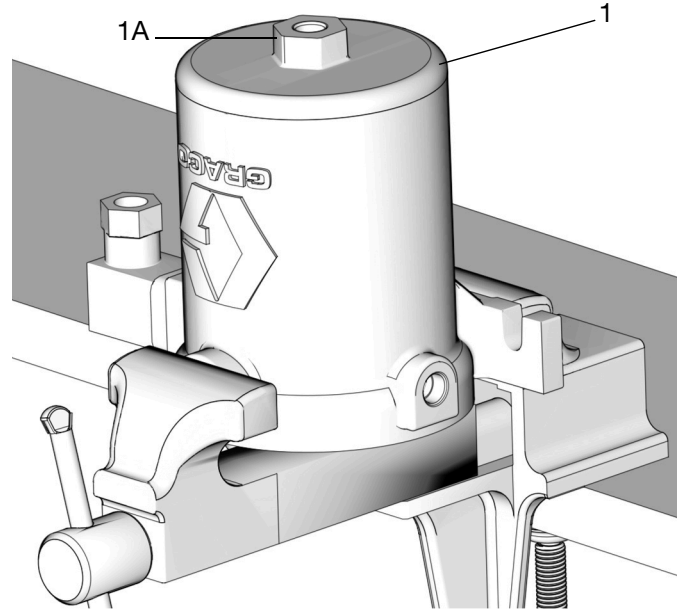

**FIG. 18**
**15. Pump Piston Subassembly (33)**
Secure a wrench on the flats of piston rod (34). Use a second wrench to remove lock nut (31) and star washer (32) from top of piston (FIG. 18). Remove lock nut and star washer. Keep these parts for reassembly.
NOTE: There is a spring (5) inside the air motor cylinder (3) under the piston (3). Push on the top of the cover (1) for resistance and to hold it open while loosening the cover screws (1A) (see FIG. 18).